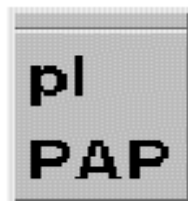

Figure 74. Plot Menu Window
3. Press the right mouse button to open the plot menu window shown in **Figure 74**.